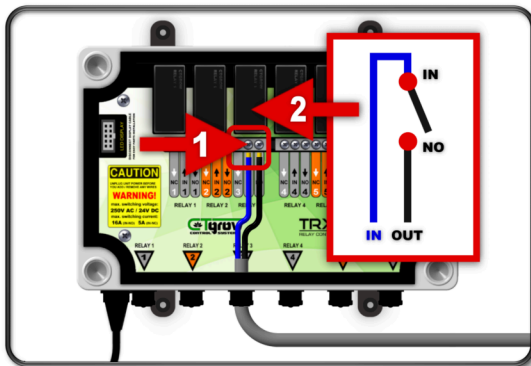

Figure 5.0.2
It is crucial to understand that the TRX-6 relay's have limitations when it comes to controlling high-power or inductive/capacitive devices, such as High Power HID lights or electrical motors. In such scenarios, the TRX-6 acts solely as an electrical pilot switch, responsible for controlling a separate remote heavy-duty switch known as an industrial contactor (refer to Figures 5.0.2 and 5.0.3).
Once the wiring is completed, the relay will function as a simple on/off switch (See Figure 5.0.2-1/2). When the relay is activated (ON), it connects the two wires together, allowing the current to flow through the circuit. (See Figure 5.0.2-1/2).